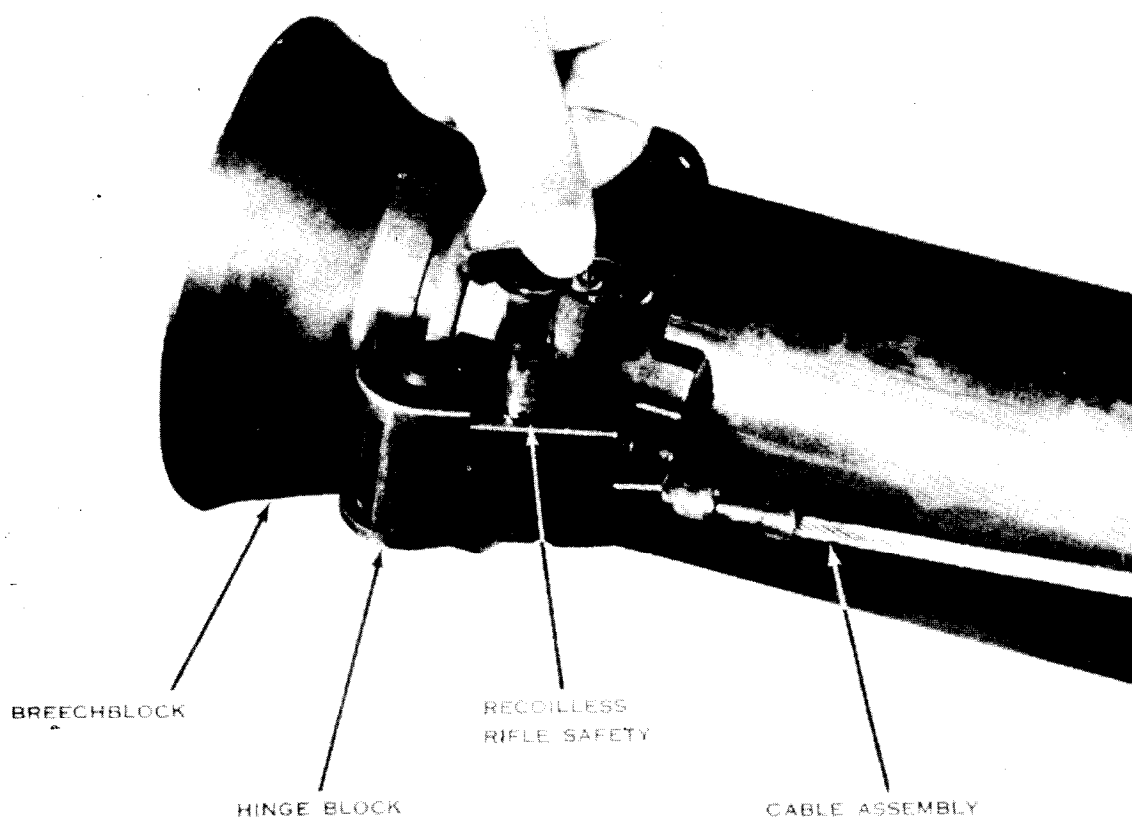

Figure 8. Removing and installing the safety mechanism.
- (c) Rotate the safety (3, fig. 6) 45 degrees clockwise from the FIRE position; pull up and remove (fig. 8). The